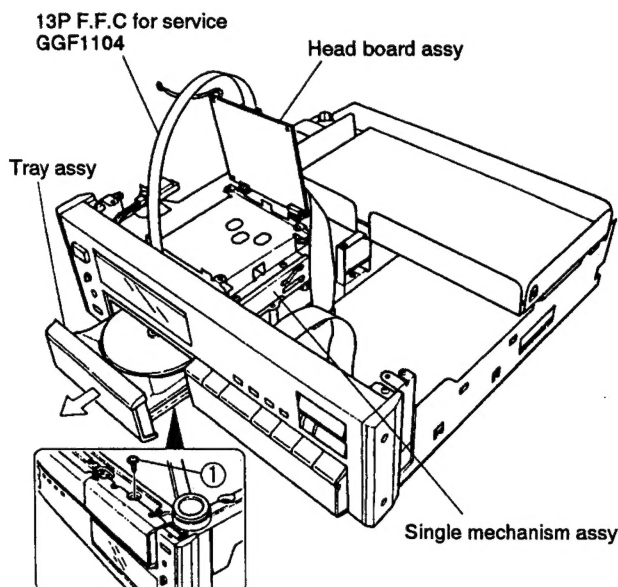

Fig. 1
When servicing the unit (adjusting the pickup assy or repairing the head board assy) after setting the head board assy in a standing position (Fig. 1) by inserting it into the P board holder (PNY - 405), use 13P F.F.C. to connect the head board assy and the spindle motor.
2. Remove the fixing screw ① of the tray assy (Fig.1).